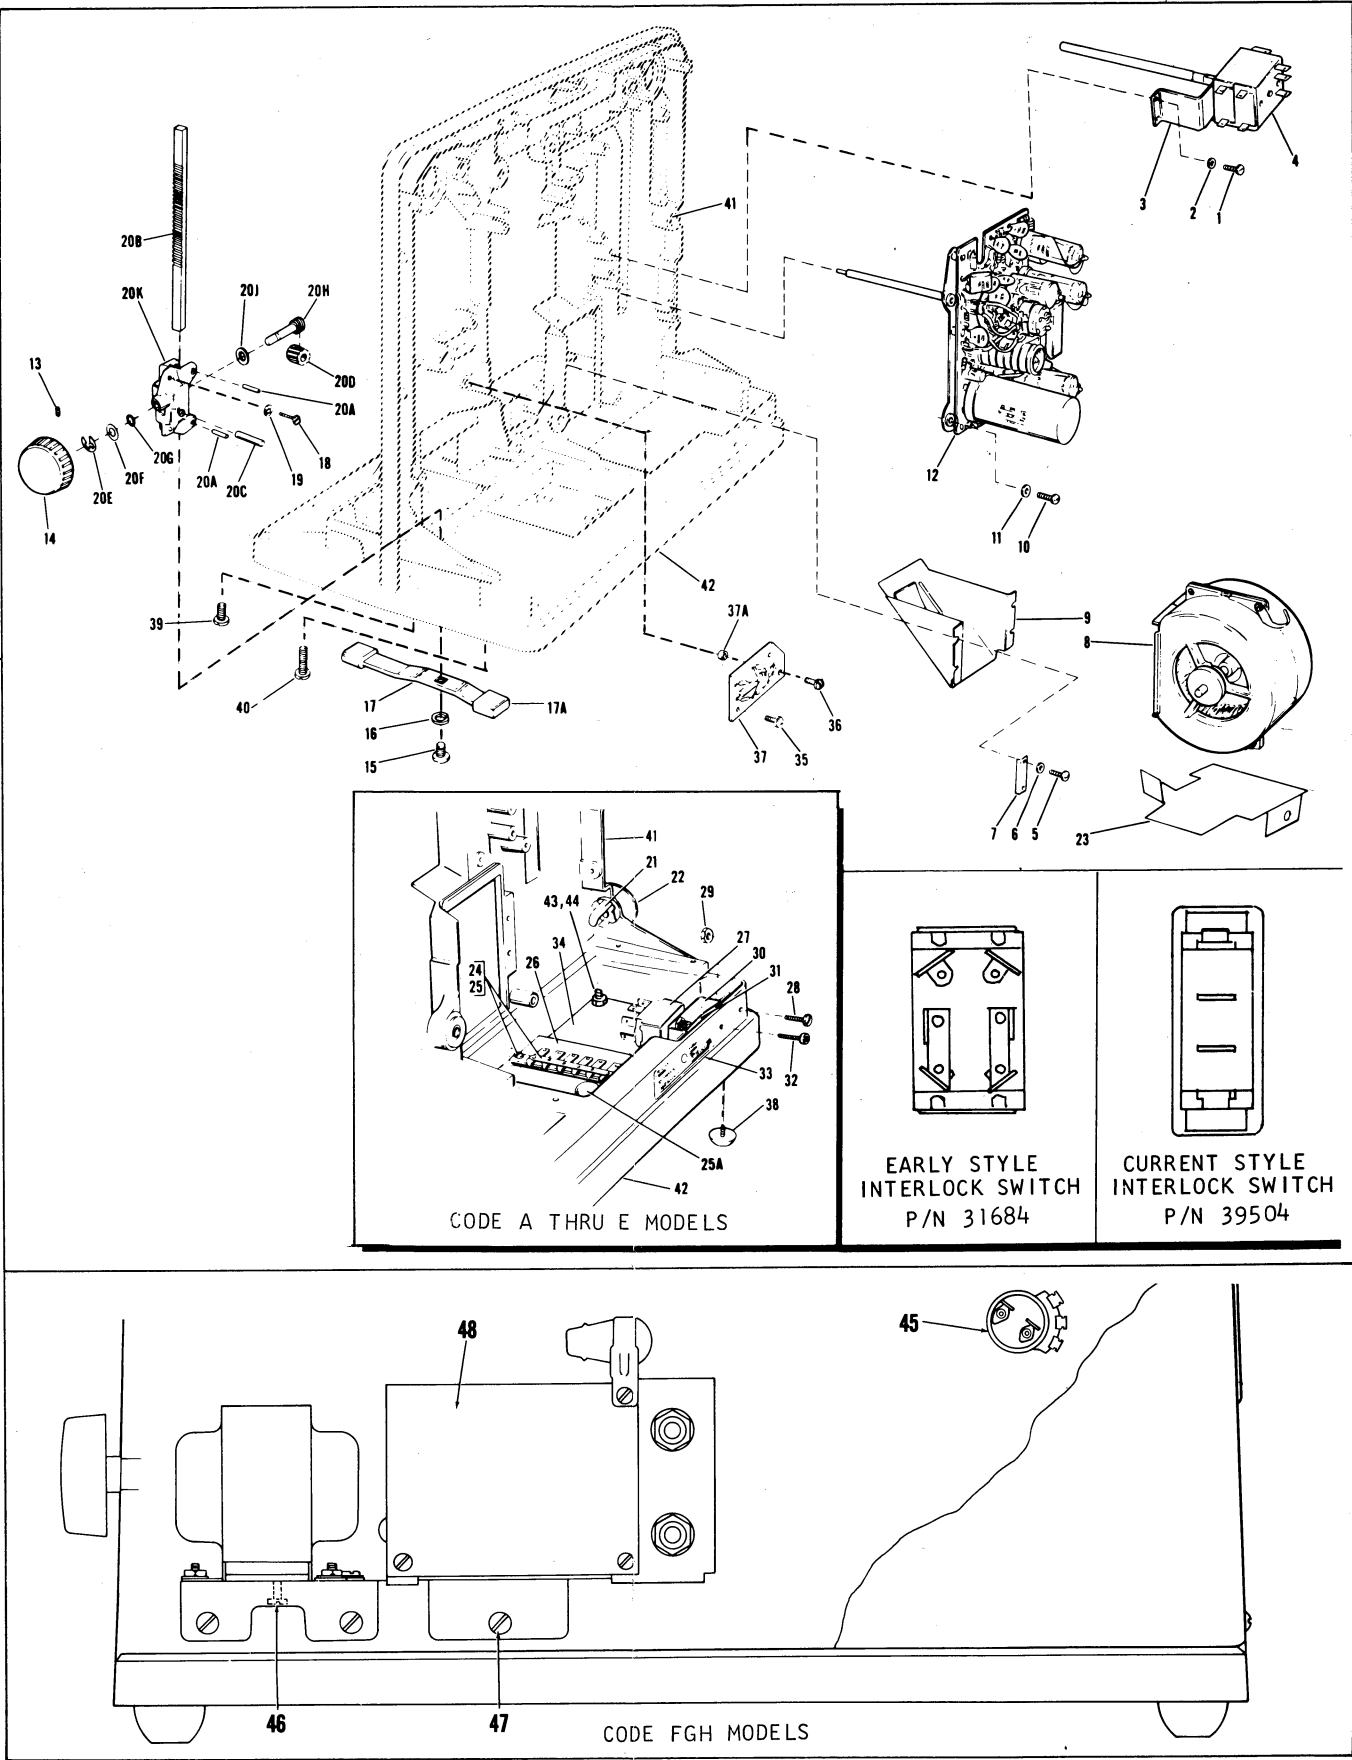

Figure 8. Projector Main Plate Components
NOTE C: The interlock switch (item 8-27) used in the projector will determine the part number of several related parts. The switch used in early and current models can be identified by referring to the insets in Figure 8.